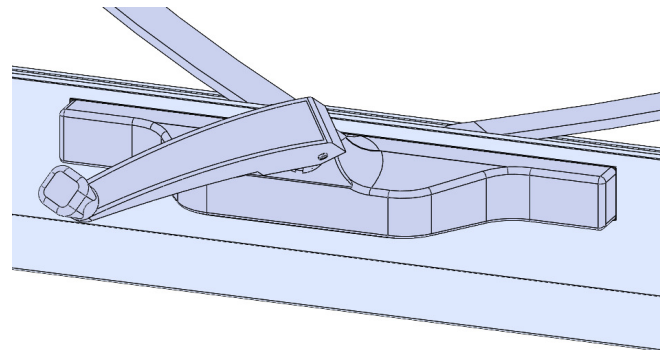

Figure D3:
5. To reinstall follow steps 1-4 in reverse, Ensure the gasket [sits between the operator and the frame] is properly aligned, if the gasket is not placed properly leaking may occur (Figure D3).